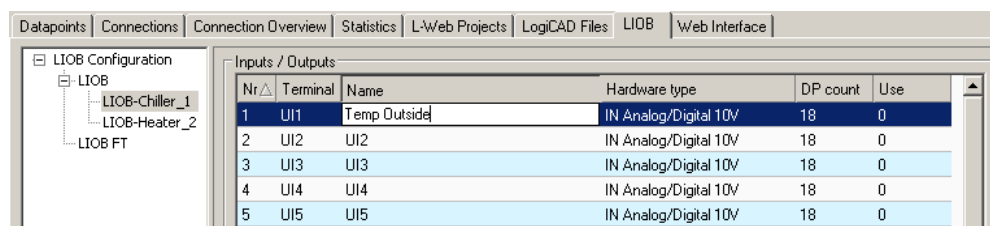

Figure 43: Change L-IOB terminal names for your installation.
2. Select a L-IOB device in the tree on the left-hand side and enter names for the terminals by double-clicking into the **Name** column as shown in Figure 43.